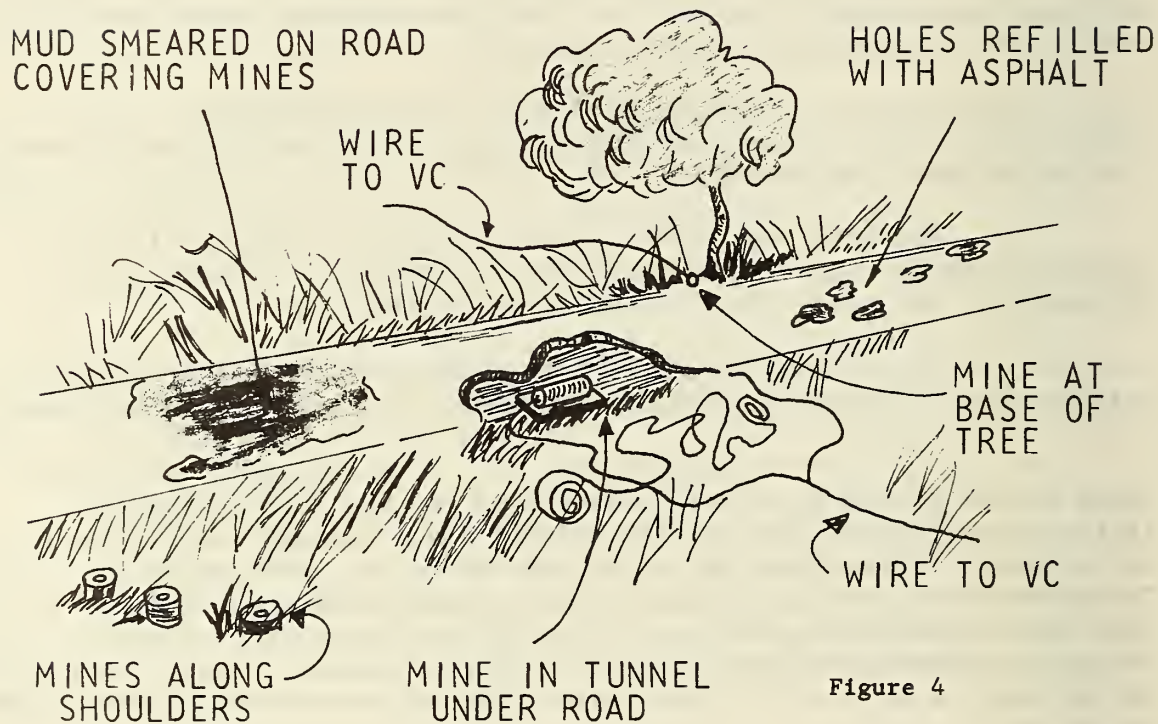

Figure 4
4. METHODS OF EMPLOYMENT ON HARD SURFACED ROADS. (figure 4)